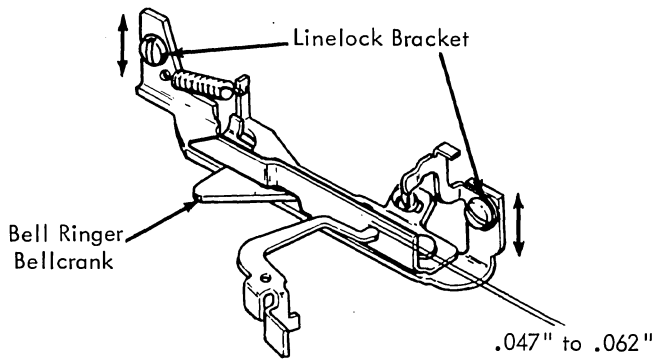

FIGURE 182A. Line Lock Bracket
- 6. Line Lock Bracket - Adjust the line lock bracket up or down so that the bellringer bellcrank will ride $.047$ " to $.062$ " from the bottom as the carrier moves into the line lock position. (Fig. 182A).